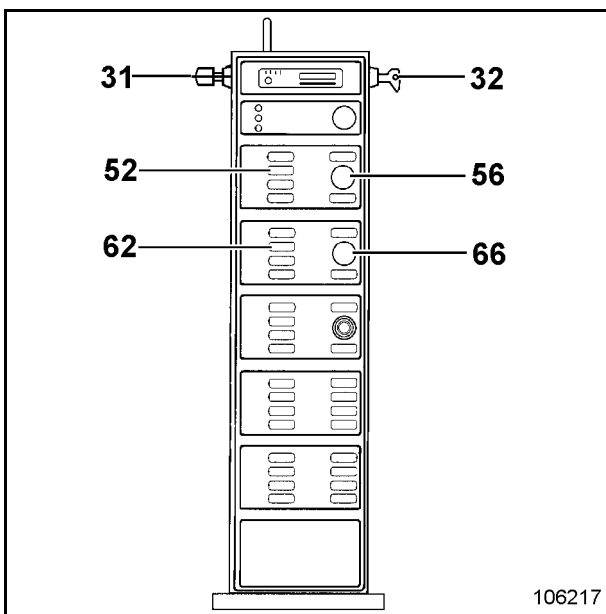

Fig. 2-75:
- Activate the EMERGENCY SHUT-OFF buttons (31, Fig. 2-75: and 2, Fig. 2-76:).
- Turn engine speed control (56 and 66, Fig. 2-75:) to the left against the limit stop (idling speed).
- Insert the key into the key-switch (32) and turn clockwise.